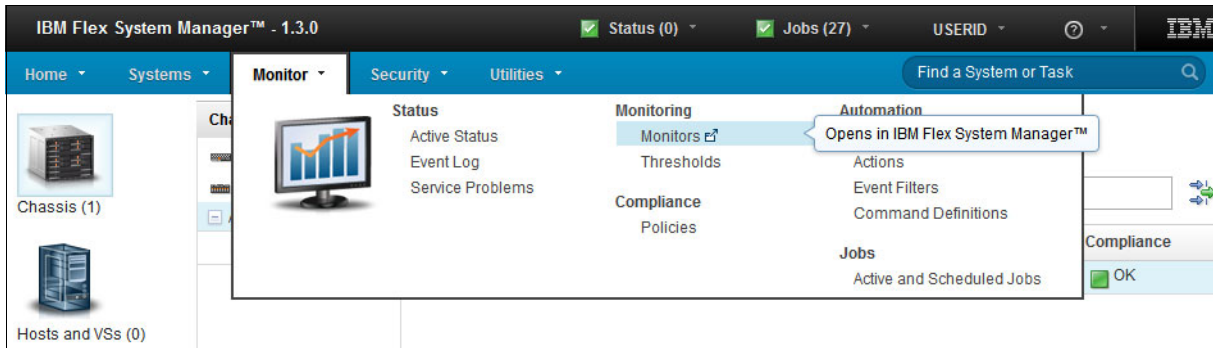

Figure 7-39 FSM Explorer: Monitors
1. Open the Monitors task from the FSM Explorer user interface by moving the mouse over the **Monitor** menu and clicking **Monitors**, as shown in Figure 7-39.